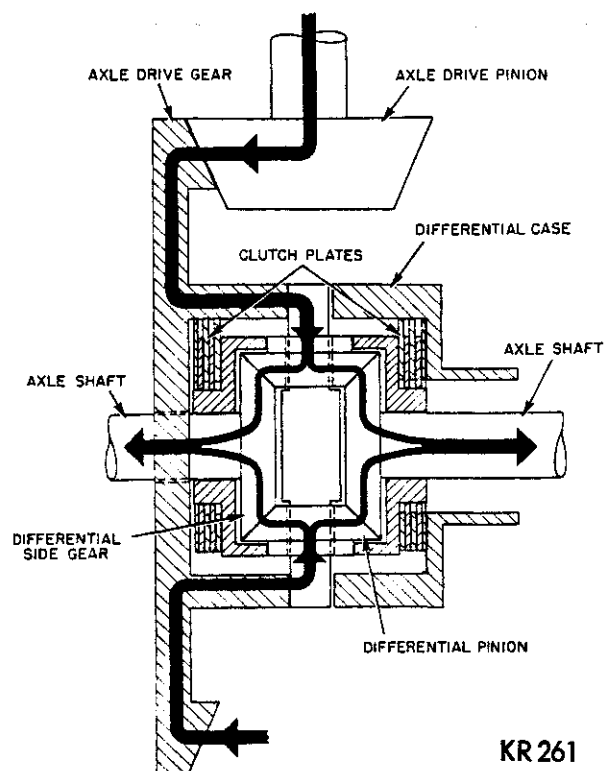

Fig. 21—Power Flow Axle Shafts Turning at Same Speed
(4) Position each differential bearing cone on hub of differential case (without shims), small end away from drive gear, using Tool C-4025 (Fig. 21). An arbor press may be used in conjunction with installing Tool. **CAUTION: Never exert pressure against the bearing cage, since this would damage the bearing and make it unfit for further use.**
(5) Position differential bearing cups on their respective cones and insert differential case in carrier. Install bearing caps in their correct positions and tighten bearing cap bolts finger tight.
(6) Install dial indicator fixture with indicator pointer contacting back face of drive gear.